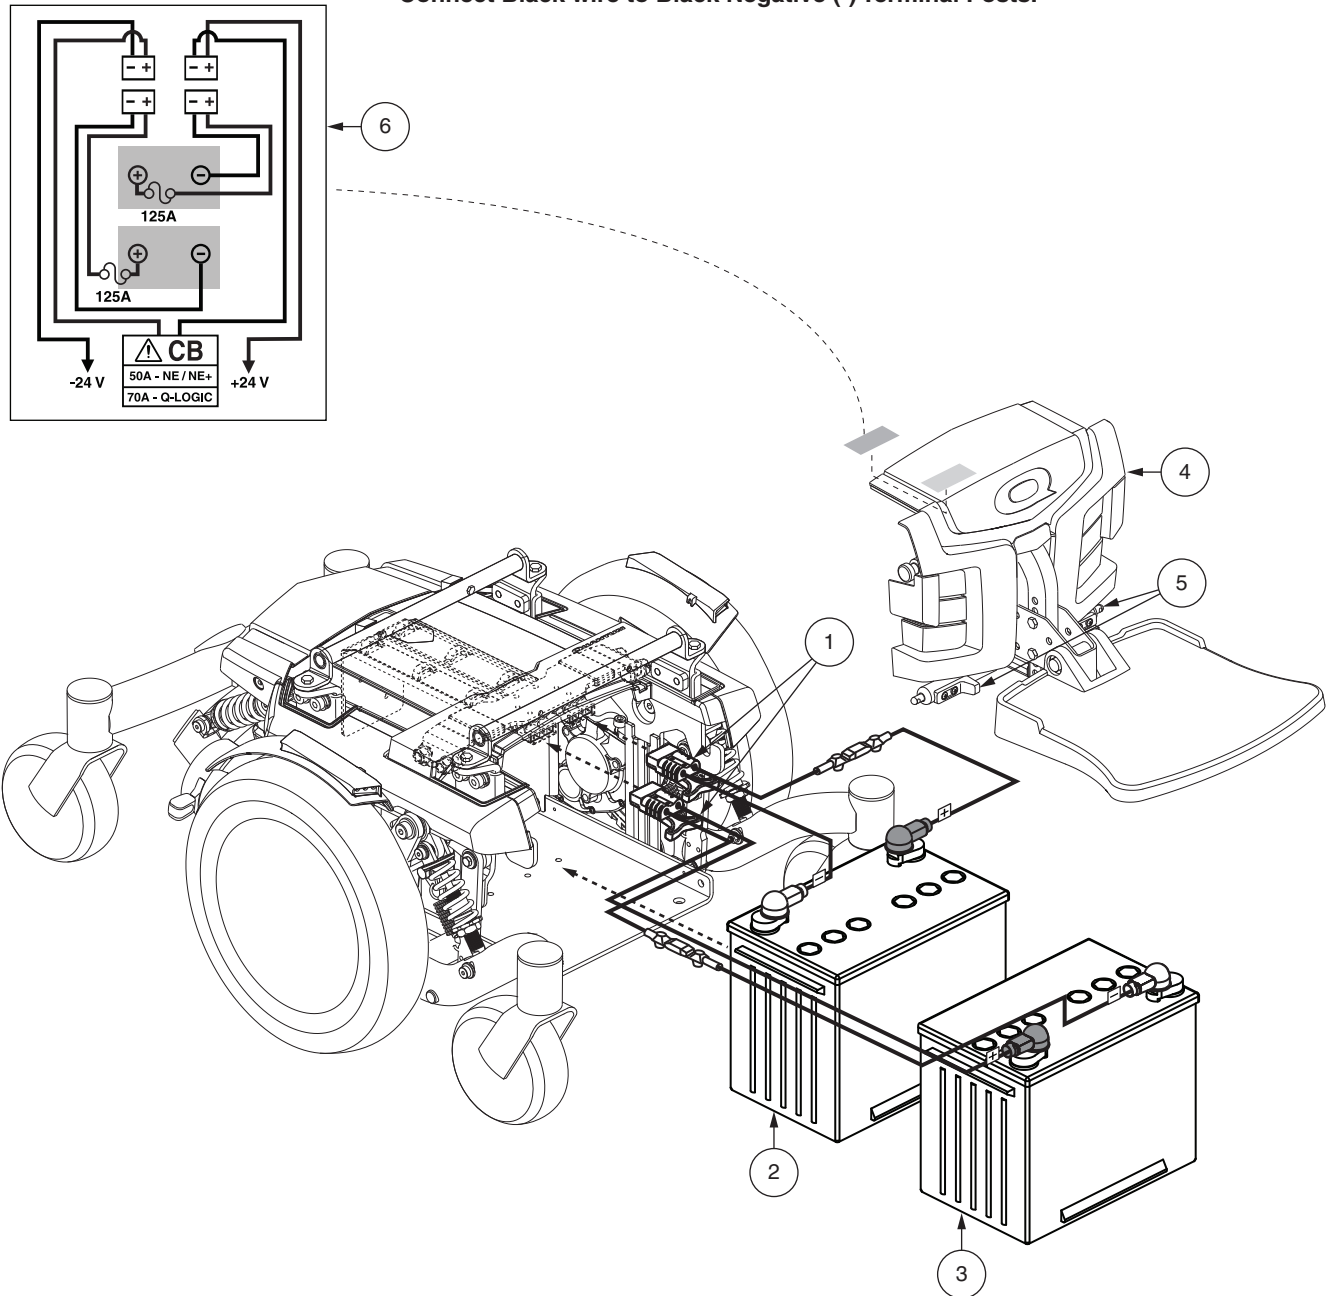

Figure 21. Battery Installation
3. Remove the front cover by squeezing the release handles (**see figure 21**) and lifting the foot platform bracket up and away from the power base.
7. Connect the battery harness to the new front battery according to the battery wiring diagram. **See figure 21.**
8. Connect the battery harness to the new rear battery according to the battery wiring diagram. **See figure 21.**